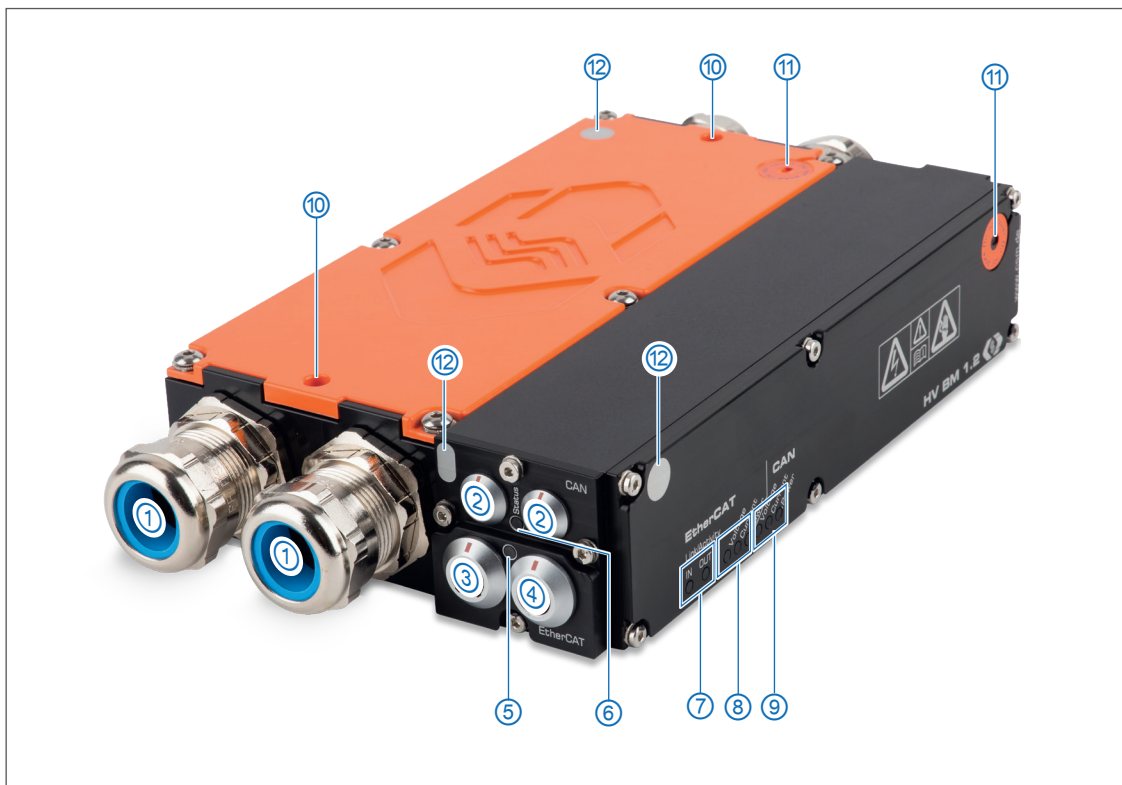

Fig. 3-1: HV BM 1.2, front view
Fig. 3-1 shows the connections of an HV BM 1.2. The module versions HV BM 1.1 and HV BM 3.1 are equipped with only one PG gland ① on each side of the housing and they lack the holes for the threaded bolts ⑩. As for the HV BM 3.1, the connection sockets (CAN/EtherCAT®) are also located on the opposite side. Otherwise these modules are identical to the HV BM 1.2.
After the measurement module is switched on, the two-colored status LED (Fig. 3-1, ⑤) is lit red for approx. 1.2 seconds and then fades out.2
The LED indicator (Fig. 3-1, ②) between the two CAN sockets provides information on the operating status of the measurement module.
The LED indicators for the sockets **IN** and **OUT** (Fig. 3-1, ⑦) are lit or are flashing if the measurement module is electrically connected to an XCP-Gateway or if data is being transferred.
The measurement channel LED indicators (Fig. 3-1, ⑧ and ⑨) provide information on the status of the corresponding measurement channel and the sensor excitation. There are separate LED indicators for access via CAN bus or EtherCAT® bus. The measurement channels are arranged as follows (left to right):